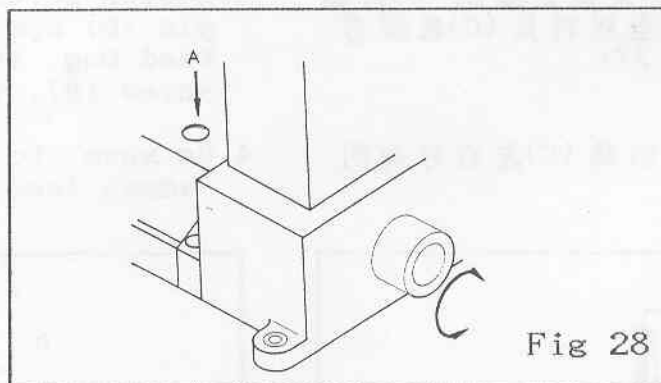

Fig 28
Push stitch length regulator button (A) and turn pulley until the button lock in the stitch regulator. Then, turn pulley again to reach desired stitch length. then, release the button. (Fig. 28)